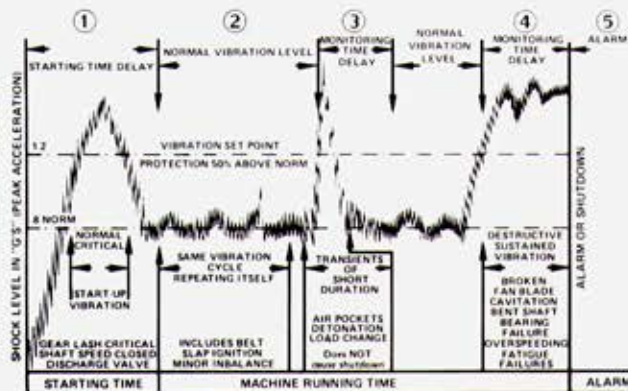

Figure 6
To better understand the reasons for starting and monitoring time delays, reference to Figure 6 shows typical vibration levels on an operating machine with respect to time. Since some of these vibration levels are higher than the set-point adjustment on the Vibraswitch, the monitor control unit must contain certain supervisory logic that will sort out the false short term disturbances so that alarm and shut-down will not occur; but if a valid (long term) high level vibration occurs, then alarm and shut-down must be initiated.
Refer to Figure 6, periods (1) through (5).